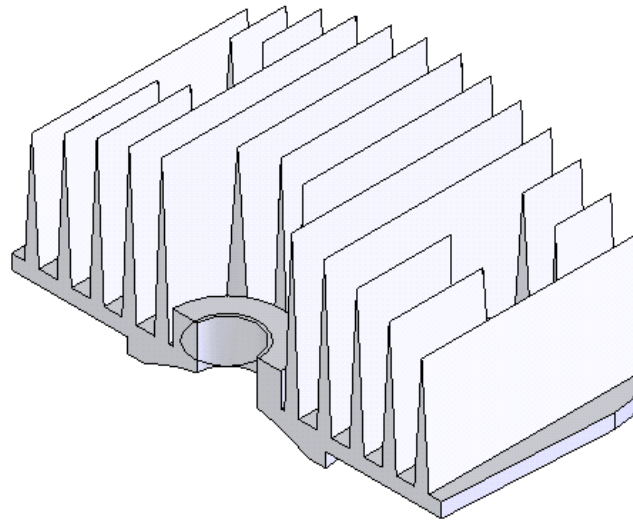

Figure 7-94 Section view of the model
6. Click anywhere in the drawing area to remove the **Front** plane from the selection set. The section view of the model is shown in Figure 7-94.